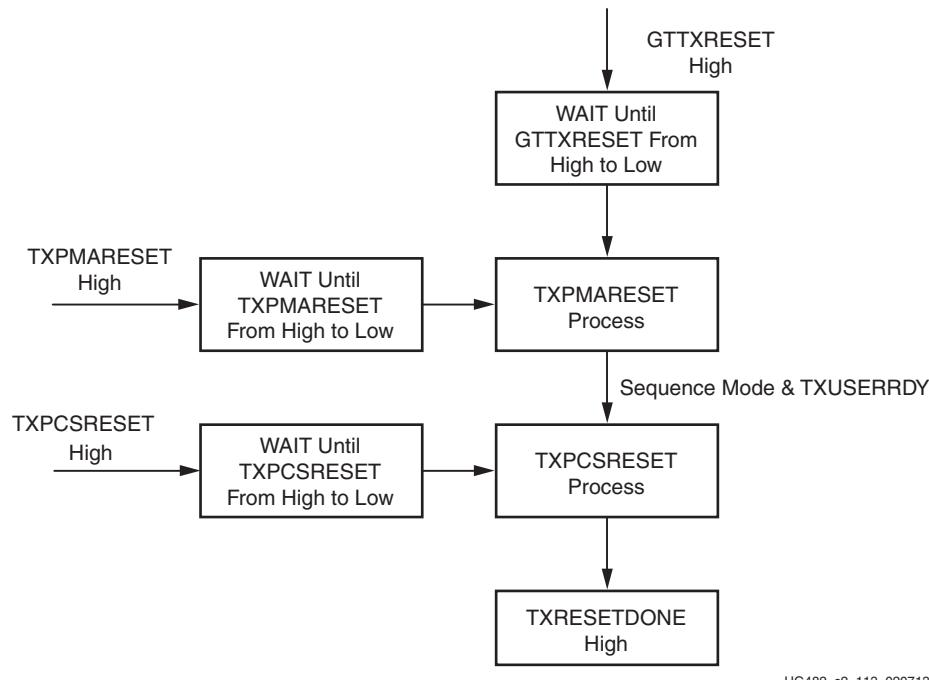

Figure 2-13: GTP Transceiver TX Reset State Machine Sequence
- Sequential mode: The reset state machine starts with an initialization or component reset input driven High and proceeds through all states after the requested reset states in the reset state machine, as shown in Figure 2-13 for the GTP transceiver's TX or Figure 2-18 for the GTP transceiver's RX until completion. The completion of sequential mode reset flow is signaled when (TX/RX)RESETDONE transitions from Low to High.
The GTP transceiver's TX uses a reset state machine to control the reset process. The GTP transceiver's TX is partitioned into two reset regions, TX PMA and TX PCS. The partition allows TX initialization and reset to be operated only in sequential mode, as shown in Figure 2-13.
The initializing TX must use GTTXRESET in sequential mode. Activating the GTTXRESET input can automatically trigger a full asynchronous TX reset. The reset state machine executes the reset sequence, as shown in Figure 2-13, covering the whole TX PMA and TX PCS. During normal operation, when needed, sequential mode allows the user to reset TX from activating TXPMARESET and continue the reset state machine until TXRESETDONE transitions from Low to High.
The TX reset sequence shown in Figure 2-13 is not automatically started to follow global GSR. It must meet these conditions: